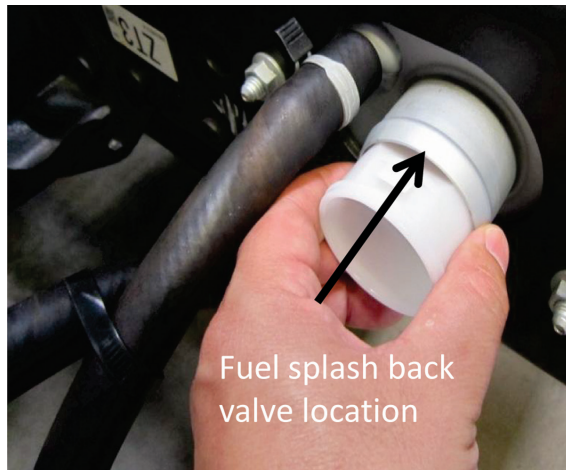
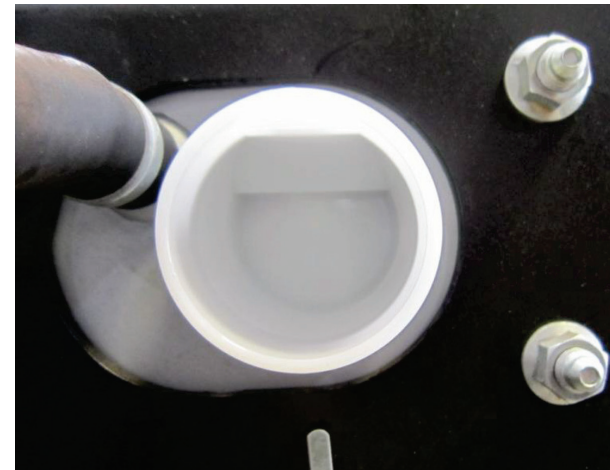

Figure 11.33.1
Figure 11.33.2
The fuel tank shutter valve (13) was a new component for 2011 model year. This component is meant to improve fuel splash-back performance of the fuel system. In the 2012 model year a running change was made and this valve (13) was relocated from the fuel tank inlet to the inlet (outboard side) of the fuel filler neck bulkhead assemble that is bolted to the left hand frame rail as shown in **Figure 11.33.1**. This plastic valve snaps into place in the inlet of the frame mounted fuel pipe. The valve should be installed so that the plastic clip is at the top of the valve, so that the flap door opens up, as shown in **Figures 11.33.2**.